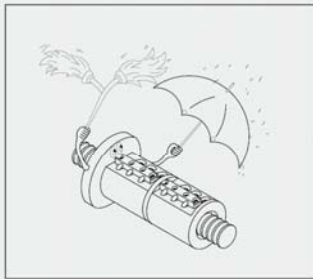

Fig 1.1 Carefully clean and protect
(1) A ballscrew must be thoroughly cleaned in white spirit and oil to protect against corrosion. Trichloroethylene is an acceptable degreasing agent, ensuring the ball track free from dirt and damage (paraffin is not satisfactory). Great care must be taken to ensure that the ball track is not struck by a sharp edged component or tool, and metallic debris does not enter the ball nut (Fig. 1.1).
(2) Select a suitable grade ballscrew for the application (ref. Table 1.5). Install with corresponding mounting disciplines. That is, precision ground ballscrews for CNC machine tools demand accurate alignment and precision bearing arrangement, where the rolled ballscrews for less precision applications, such as packaging machinery, require less precise support bearing arrangement.